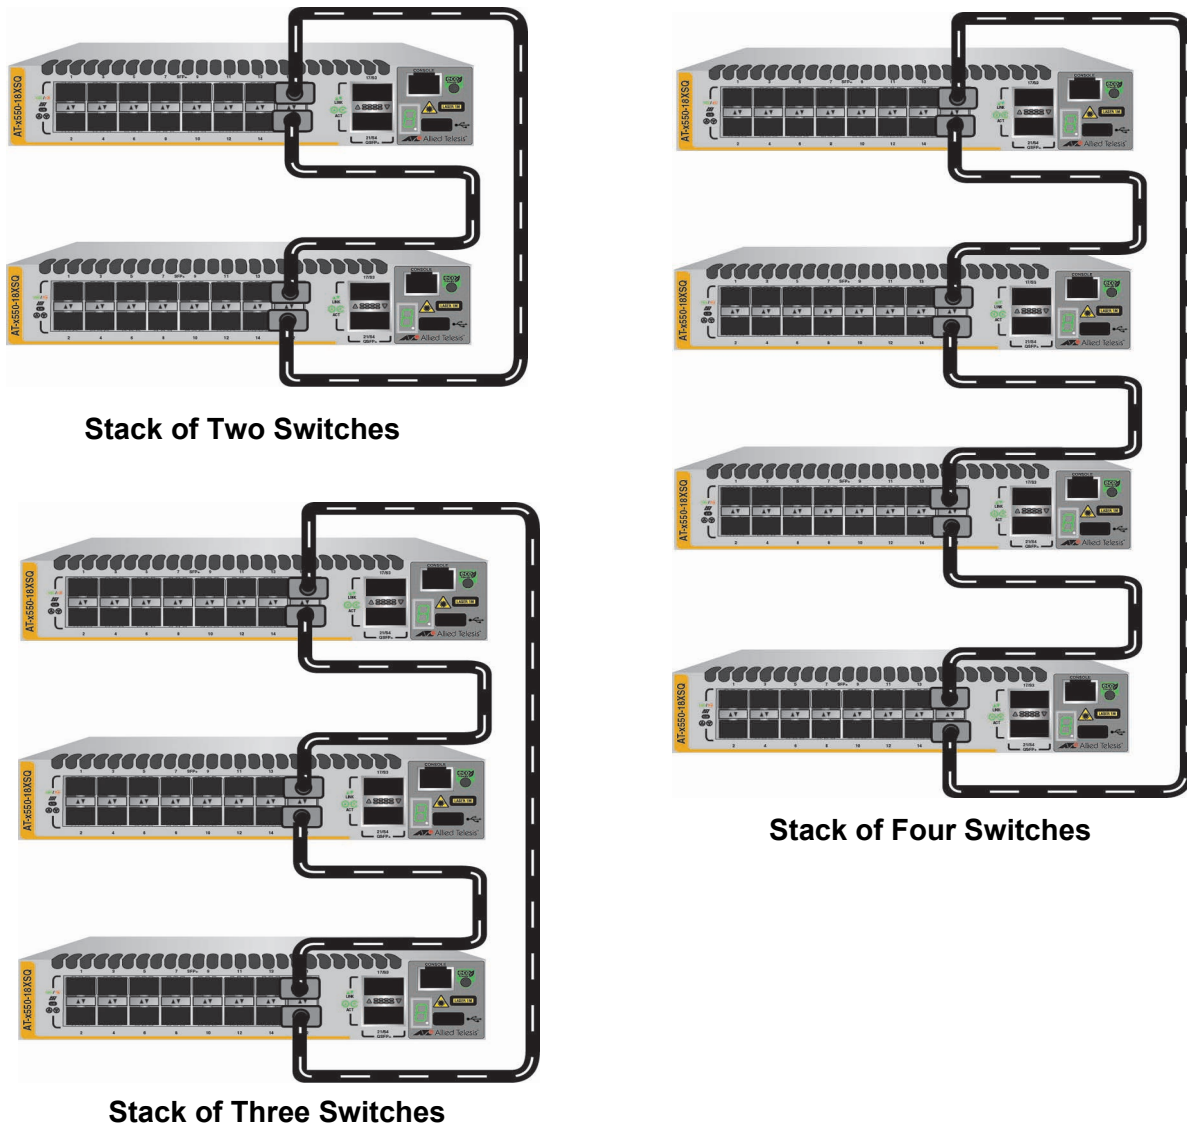

Figure 19. Cabling 10Gbps Ports as a Stack Trunk
- As with 40Gbps trunks, the stack cables of 10Gbps trunks must cross over to different stack ports on the switches. For example, when cabling two AT-x550-18XSQ Switches, the connection of the transceiver in slot 17 has to connect to the transceiver in slot 18 in the next switch. Figure 19 shows the correct wiring configurations for stacks of two, three, and four switches.